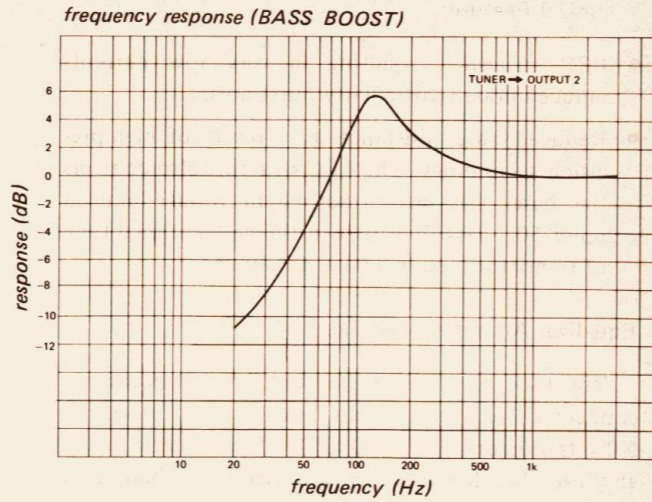

Fig. 1-5.
2. The low frequencies are emphasized by the twin-T network feedback circuit (C402 to C404, R405, R406, R408, R409). Fig. 1-5 shows the resultant frequency response curve.